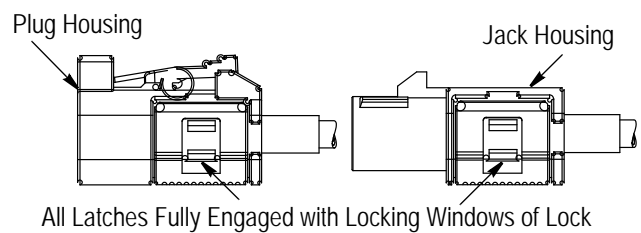

Figure 8
8. Align the locking windows of the lock with the latches of the housing. See Figure 8. Push the lock onto the housing until it “snaps” into place. Check that all latches are fully engaged. If any latch is not fully engaged, press down on the top of the latch while pressing inward on the sides of the lock. Make sure that all parts of the lock are flush to the housing.